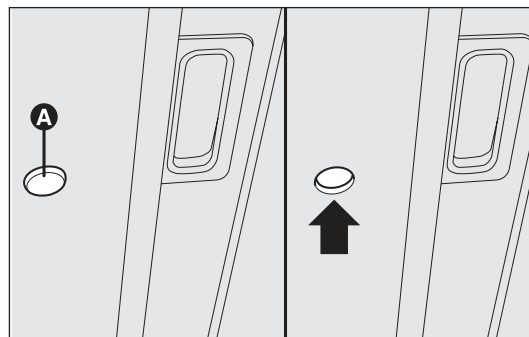

fig. 77
- ☐ insert the key into hole A-fig. 77 and turn it: